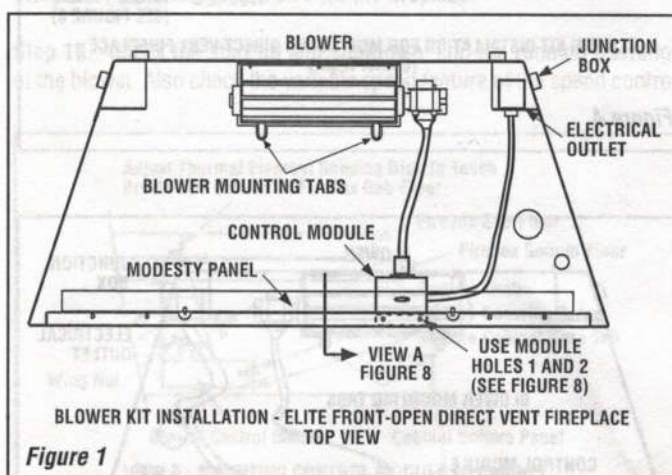
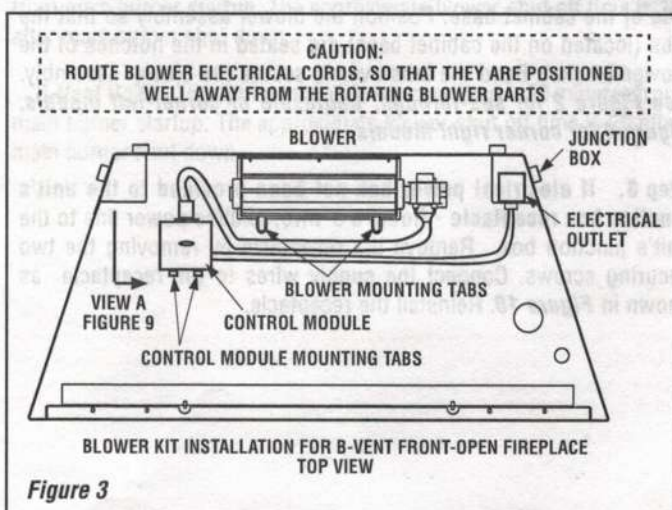

Figure 1
Figure 3
Step 7. Front-open direct vent and B-vent units - Slide the blower assembly through the front opening to the middle rear area of the cabinet base. Position the blower assembly so that the tabs (located on the cabinet base) are seated in the notches of the blower bracket. Then bend the tabs over to secure the blower assembly. See **Figure 1, direct vent models; Figure 3, B-vent models.**
- a - see **Figure 1** for Elite-2 Front -open units;
B-vent units - There are two module mounting tabs located on the cabinet base just to the left/front of the blower, as shown in **Figure 3**. Bend these tabs up, 90 degrees. Place the control module behind the vertical tabs as shown in **Figure 3** and secure the module to the tabs with the two screws provided in this kit.